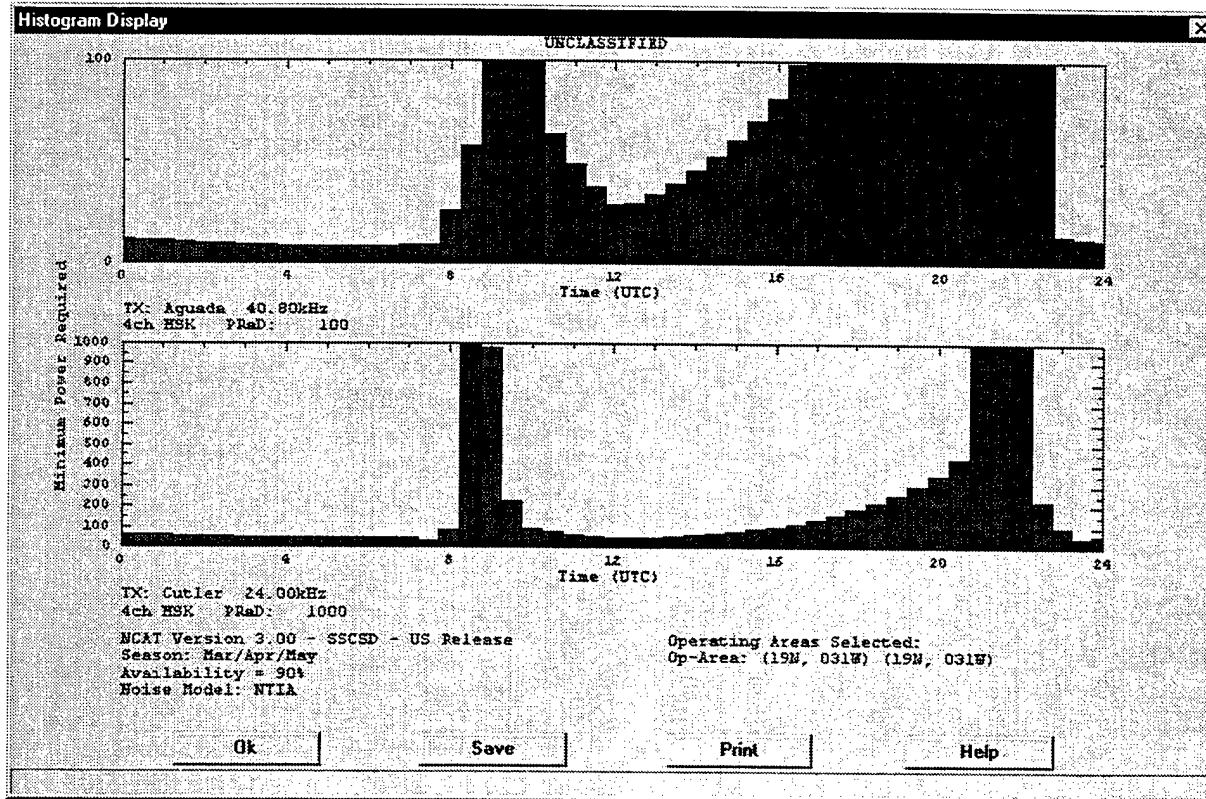

Figure 19. Example of a power level histogram.
- A determination of the minimum power, in kW, required to be output by each of the transmitter(s) to fully cover the combined selected receiver area(s). To perform a Minimum Power analysis, select Run Scenario -> Show Power Levels.... Figure 19 shows an example of the resulting hard copy.